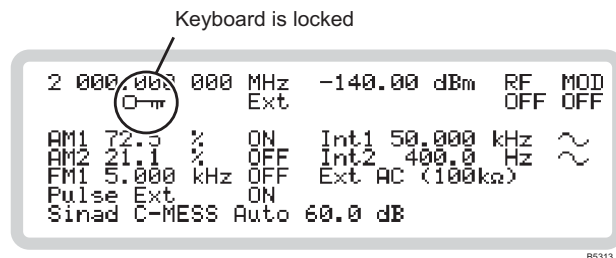

Fig. 3-127 Locked keyboard
- Confirm by pressing ENTER — the keyboard is locked and the display changes to show a summary of the instrument's set-up (Fig. 3-127). A 'key' symbol shows that the keyboard is locked. All controls (apart from the standby switch and the  key) are disabled.